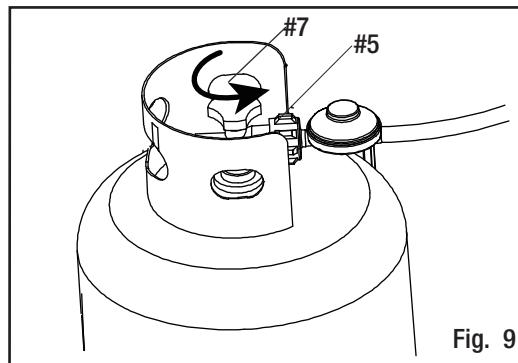

Fig. 9
2. Open access doors. Turn on gas cylinder valve (#7) to fully opened position. (Fig. 9)